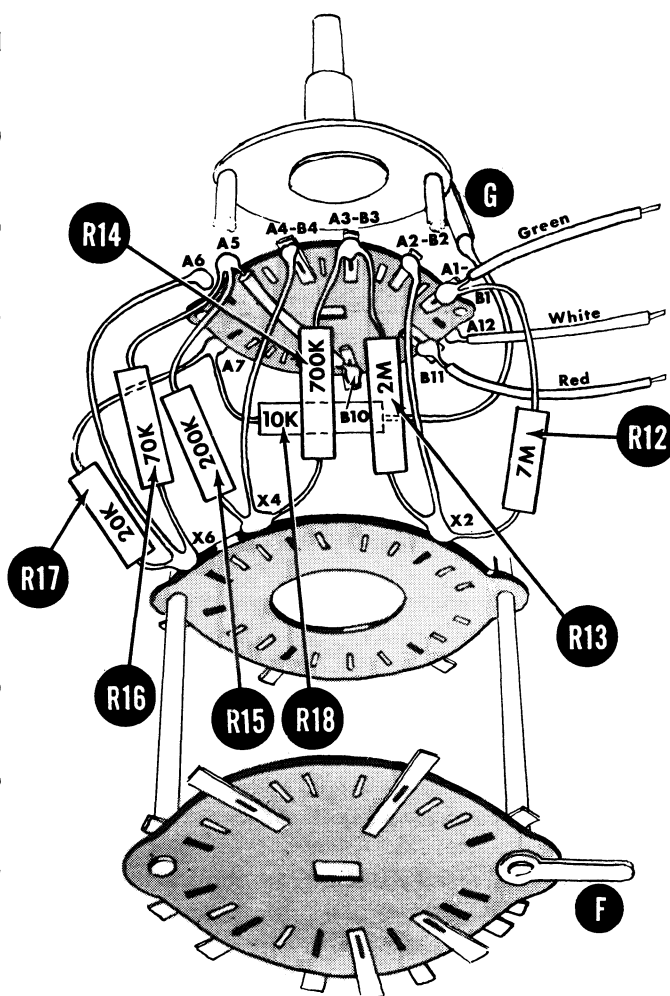
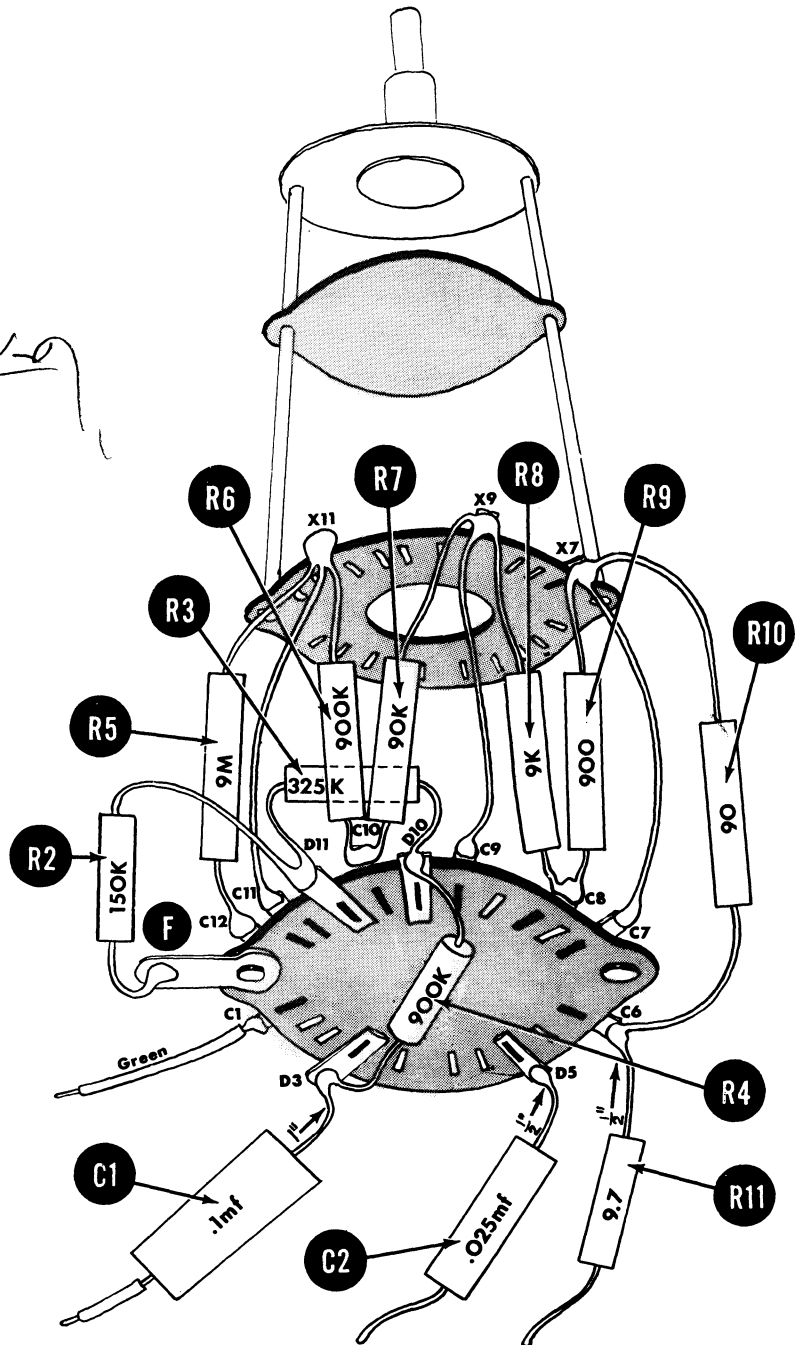

Fig. 4
Fig. 5
IMPORTANT: Before prewiring S2, see Fig. 4 and note the position of lug "F" on the rear wafer in relation to how the switch is being viewed in the drawing. This should enable you to correctly identify the contacts on the actual switch that correspond to the contacts shown in Fig. 4.
- (✓) Fig. 4. Connect a length of hook-up wire from A5 (C) to B10 (S). The A side of the wafer is closest to the detent mechanism.
- (✓) Fig. 4. Connect a length of bare wire from A6 (S) to X6 (C). The X designation will be used for the switch wafer containing the dummy lugs.
- (✓) Fig. 4. Connect a length of bare wire from A4-B4 (S) to X4 (C). When the double designation A4-B4 is used, it means the two switch lugs are electrically connected together by the rivet holding them to the wafer.
- (✓) Fig. 4. Connect a length of bare wire from A2-B2 (S) to X2 (C).
- (✓) Fig. 4. Connect the 10 K Ω resistor R18 from ground lug "G" (S) to A7 (C).
- (✓) Fig. 4. Connect the 20 K Ω resistor R17 from A7 (S) to X6 (C).
- (✓) Fig. 4. Connect the 70 K Ω resistor R16 from X6 (S) to A5 (C).
- (✓) Fig. 4. Connect the 200 K Ω resistor R15 from A5 (S) to X4 (C).
- (✓) Fig. 4. Connect the 700 K Ω resistor R14 from X4 (S) to A3-B3 (C).
- (✓) Fig. 4. Connect the 2 M Ω resistor R13 from A3-B3 (S) to X2 (C).
- (✓) Fig. 4. Connect the 7 M Ω resistor R12 from X2 (S) to A1-B1 (C).
- (✓) Fig. 4. Connect a 5 in. length of green hook-up wire to A1-B1 (S).
- (✓) Fig. 4. Connect a 4 in. length of white hook-up wire to A12 (S).
- (✓) Fig. 4. Connect a 6 in. length of red hook-up wire to B11 (S).
- (✓) Fig. 5. Note that in Fig. 5 the switch is being viewed from the side that faced away from the observer in Fig. 4. Again note the position of lug "F" on the rear wafer in relation to how the switch is being viewed in the drawing. This should enable you to correctly identify the contacts on the actual switch that correspond to the contacts shown in Fig. 5.
- (✓) Fig. 5. Connect a length of bare wire from C11 (S) to X11 (C).
- (✓) Fig. 5. Connect a length of bare wire from C9 (S) to X9 (C).
- (✓) Fig. 5. Connect a length of bare wire from C7 (S) to X7 (C).
- (✓) Fig. 5. Connect the 9 MΩ resistor R5 from C12 (S) to X11 (C).
- (✓) Fig. 5. Connect the 900 KΩ (1/2 watt) resistor R6 from X11 (S) to C10 (C).
- (✓) Fig. 5. Connect the 90 KΩ resistor R7 from C10 (S) to X9 (C).
- (✓) Fig. 5. Connect the 9 KΩ resistor R8 from X9 (S) to C8 (C).
- (✓) Fig. 5. Connect the 900 Ω resistor R9 from C8 (S) to X7 (C).
- (✓) Fig. 5. Connect the 90 Ω resistor R10 from X7 (S) to C6 (C).
- (✓) Fig. 5. Connect the 9.7 Ω resistor R11 to C6 (S).
- (✓) Fig. 5. Connect the 150 KΩ resistor R2 from gnd lug F (S) to D11 (C).
- (✓) Fig. 5. Connect the 325 KΩ resistor R3 from D11 (S) to D10 (C).
- (✓) Fig. 5. Connect the 900 KΩ (1 watt) resistor R4 from D10 (S) to D3 (C).
- (✓) Fig. 5. Connect the .1 mf capacitor C1 to D3 (S).